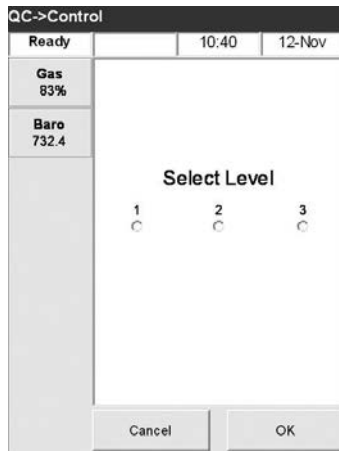

Fig. 4-15 Select QC Level
4. Select the desired level (Fig. 4-15) and press